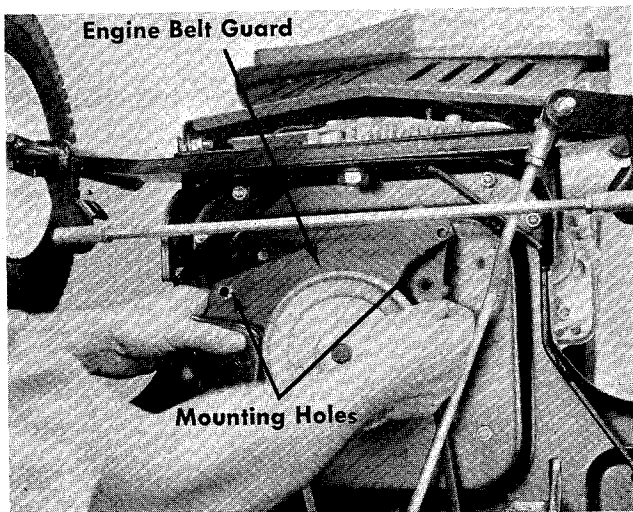

FIGURE 33. BELT GUARD REMOVAL
Step 8. Remove the engine belt guard by removing the two front engine mounting bolts. See figure 33.
- a. Remove the entire belt guard from the engine pulley by removing the two front engine bolts. See figure 33.